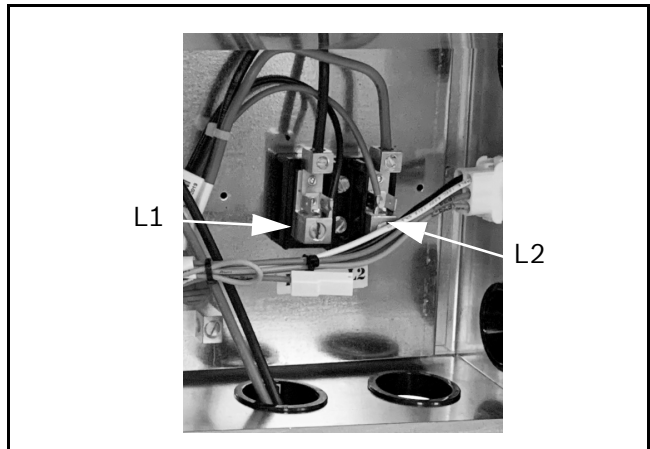

Fig. 28 Line Voltage Connections
5. Connect one of the line voltage wires to "L1" terminal connection the other line voltage wire to "L2" terminal connection. (See Fig. 28.)